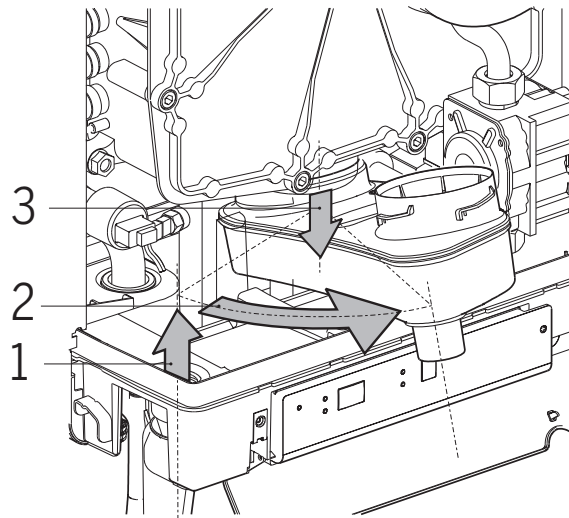

Fig. 21: Removal of Condensate Pan
5. Once the condensate pan is clear of the bottom jacket, rotate it towards the front of the appliance and push down on the rear to disengage from the heat exchanger as shown in Fig. 21 on page 41.